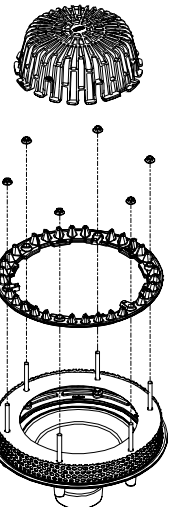

Fig. 4
8. Align the gravel guard with the protruding threaded rods and set onto the perforated extension (Fig. 4).